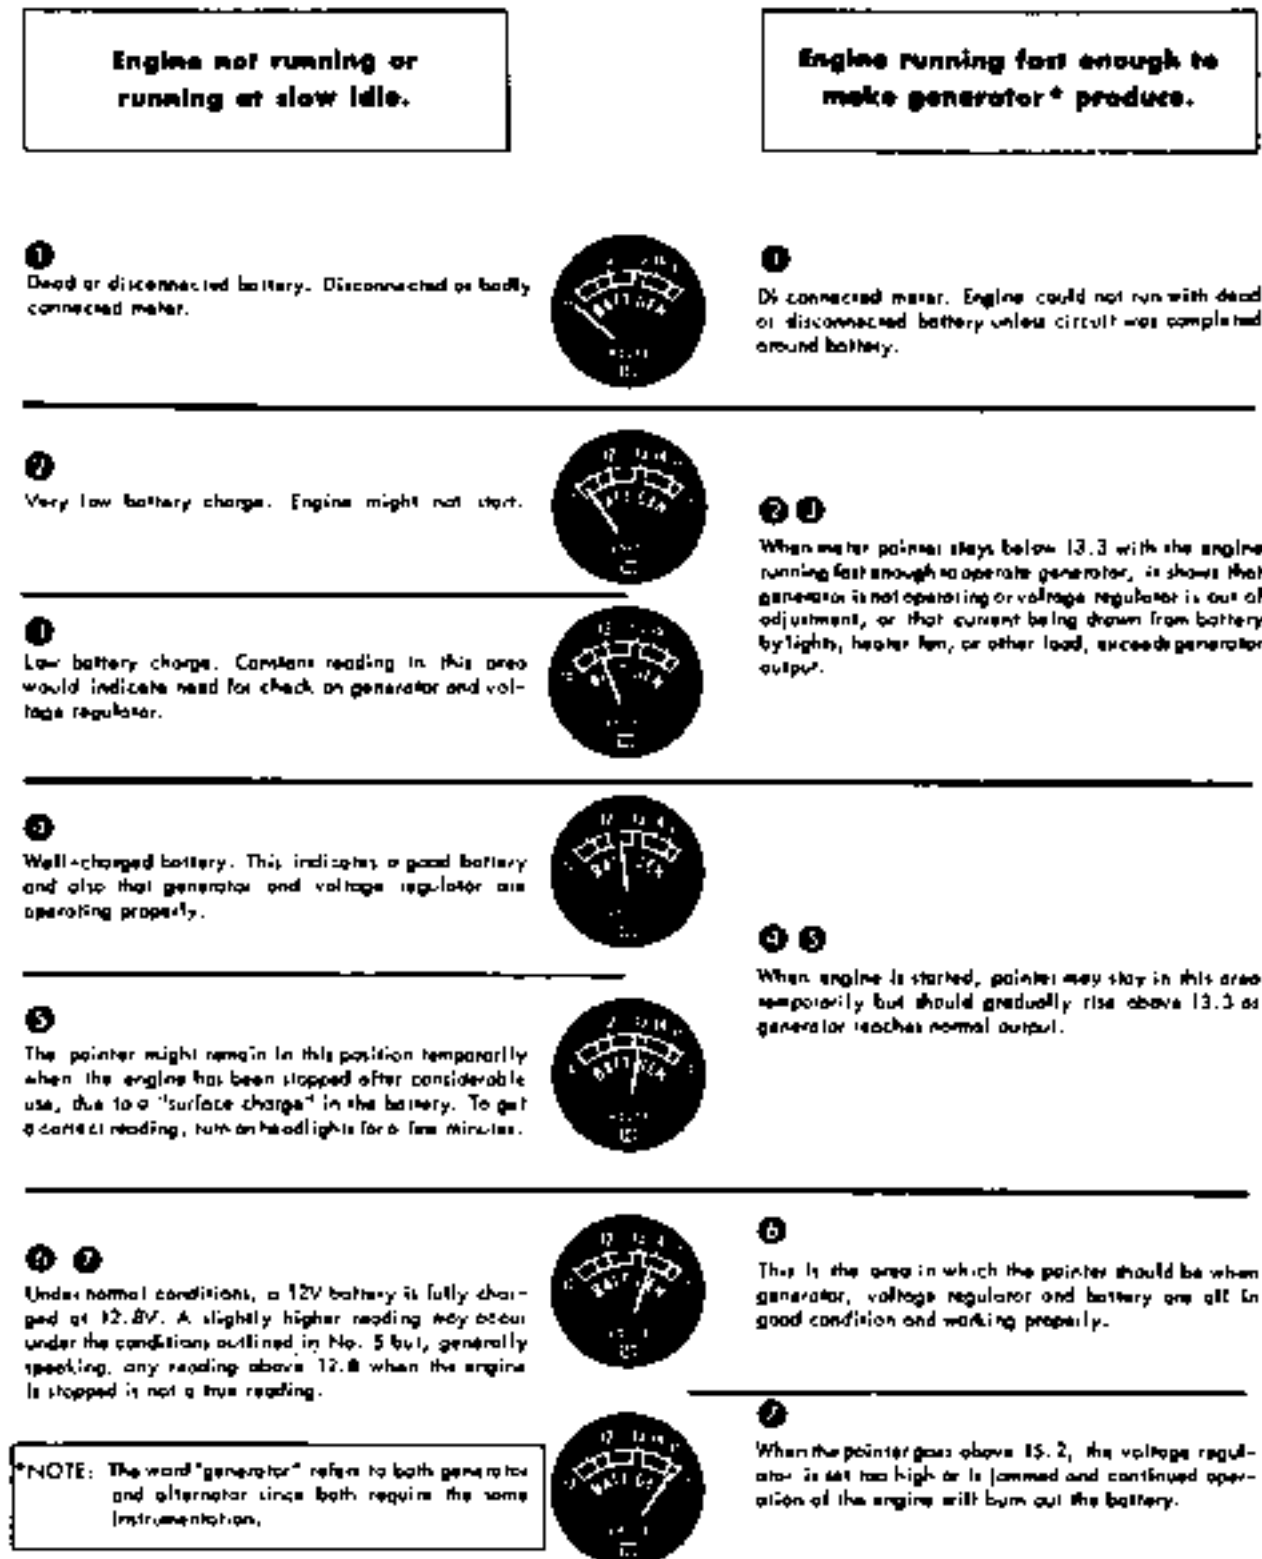

Figure 2-2. Voltmeter Operation
3. **VOLTMETER.** The voltmeter measures the voltage produced by the alternator and indicates the condition of the battery. See Figure 2-2 for an explanation of the voltmeter readings.